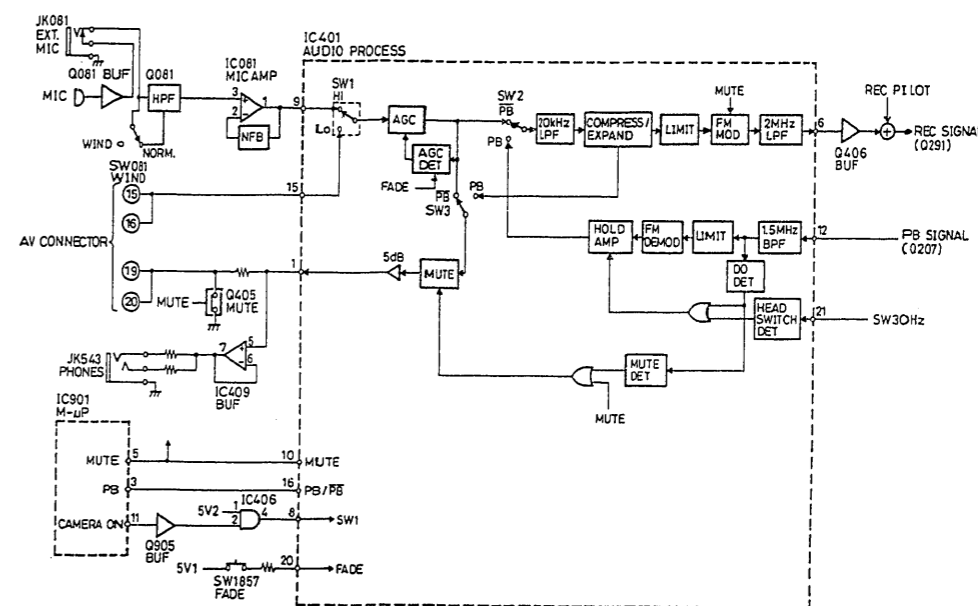

Fig. 3 Audio Signal Processing Circuit
1. DIFFERENCES COMPARED WITH THE CURRENT MODEL (Fig. 3)